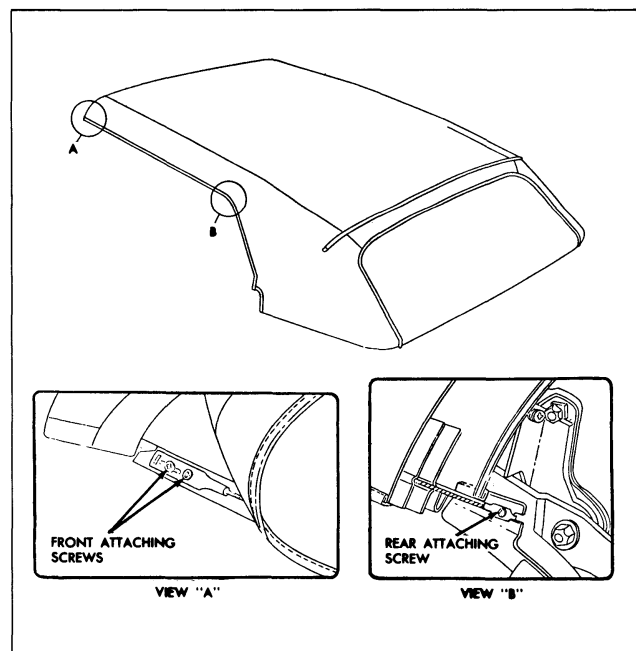

Fig. 21-12 Hold-Down Cable Attachment
5. At right and left side roof front and rear rails, remove hold-down cable front and rear attaching screws (Fig. 21-12).